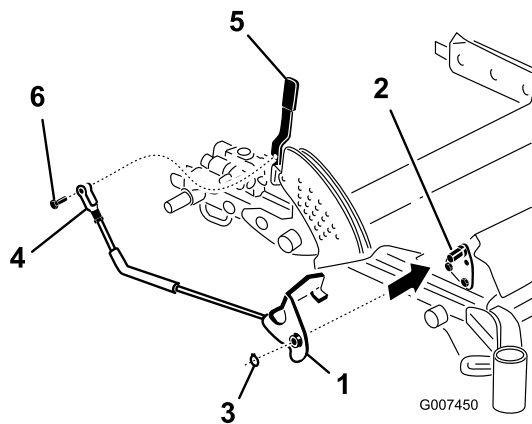

Figure 9
1. Insert the pedal onto the pedal shaft and secure with the snap ring (Figure 9).
2. Connect the yoke end of the threaded rod to the lift lever with a clevis pin and cotter pin (Figure 9).